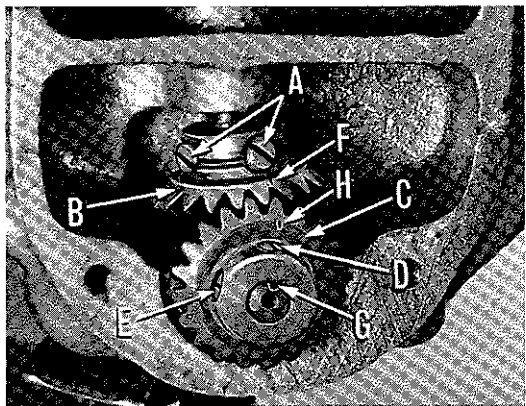
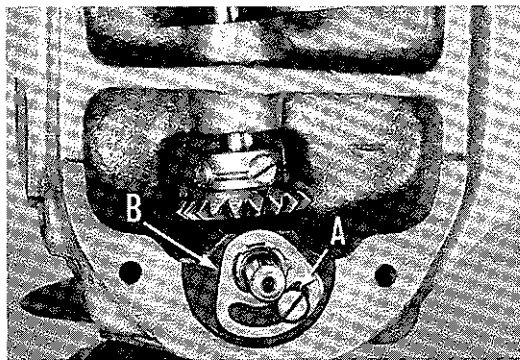

Fig. 5
Fig. 6
Turn the handwheel in operating direction until the needle has reached the forward end of its travel and returned $\frac{3}{32}$ inch. At this position, the point of the hook should be over the center of the needle. To obtain this adjustment, remove hook gear cover on the back of the head to expose the gears (Fig. 5). Loosen screws (A) in gear (B) and turn gear (C) in the required direction to position the point of the hook over the center of the needle. Re-tighten screws (A).
The point of the hook should be set as close to the needle as possible without striking it. To make this adjustment, loosen screws (D and E, Fig. 5) and remove gear (C), exposing hook bushing flange (B, Fig. 6). Loosen screw (A) and rotate the hook bushing flange (B) in the required direction to position the hook point as described above. If the hook bushing flange cannot be turned far enough to secure this setting, remove screw (A) and place it in the alternate hole in the casting to secure more adjustment. Re-tighten screw (A).
Turn handwheel in operating direction until timing mark (F, Fig. 5) on gear (B) appears over the hook shaft. Replace gear (C) so that spot screw (D) aligns with "V" groove (G) in hook shaft and turn screw down lightly. Turn gear (C) and hook shaft until timing line (H) on gear (C) aligns with timing line (F) on gear (B).